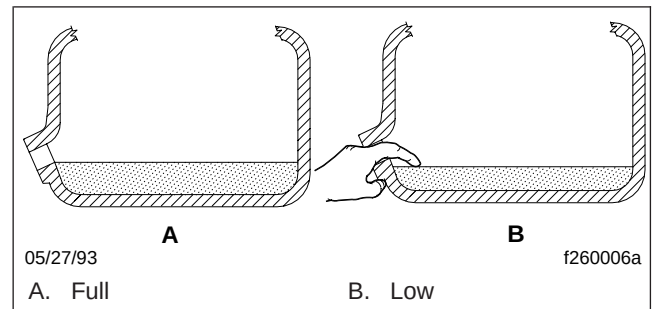

Fig. 8, Checking Transmission Oil Level
6. Add oil until it is level with the lower edge of the fill opening. If the transmission has two fill openings, add oil to the level of both openings. See Fig. 8. See Table 1 for transmission lubricant capacities, and see Table 2 for approved transmission lubricants.